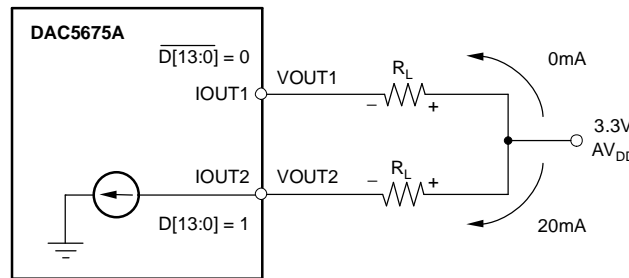
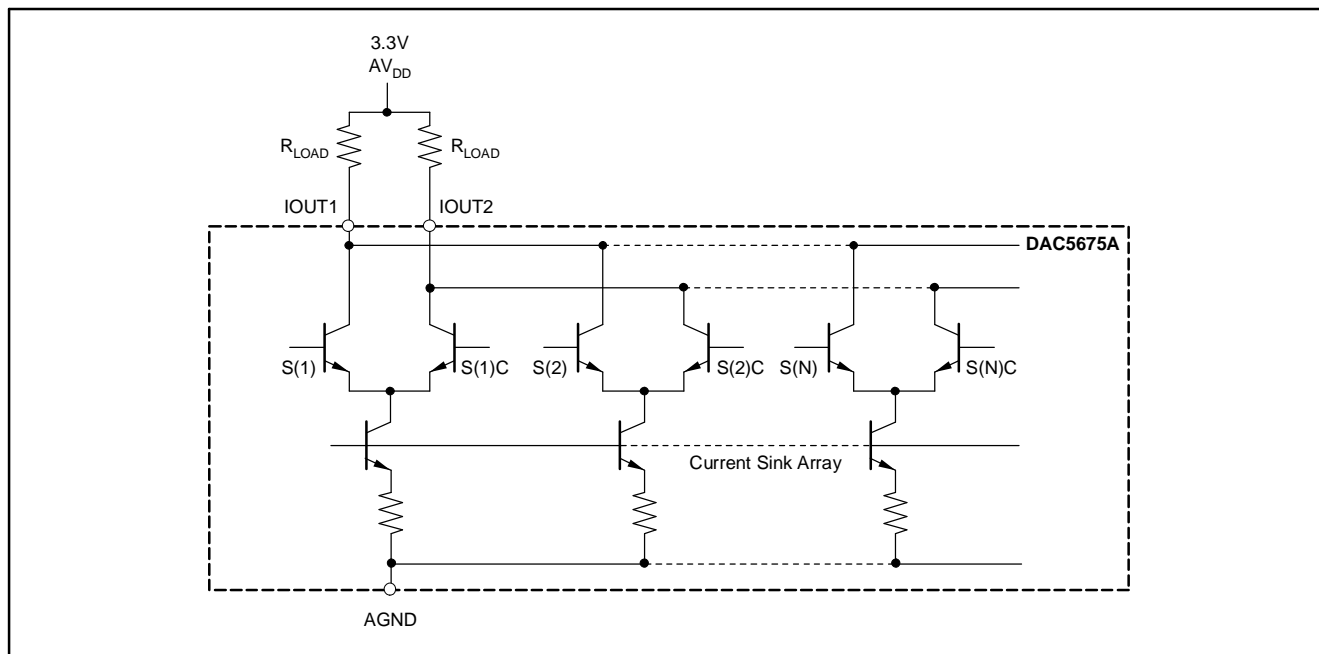

Figure 21. Relationship Between D[13:0], IOUT1 and IOUT2
Figure 22. Equivalent Analog Current Output
The output current flow in each pin driving a resistive load can be expressed as shown in Figure 21, as well as in Equation 2 and Equation 3.
Figure 22 shows a simplified schematic of the current sink array output with corresponding switches. Differential NPN switches direct the current of each individual NPN current sink to either the positive output node IOOUT1 or its complementary negative output node IOOUT2. $D[13:0]$ controls the S(N)C current switches and $\overline{D}[13:0]$ controls the S(N) current switches, as explained in the previous **DAC Transfer Function** section (see Figure 21). The output impedance is determined by the stack of the current sinks and differential switches, and is $> 300k\Omega$ in parallel with an output capacitance of 5pF.